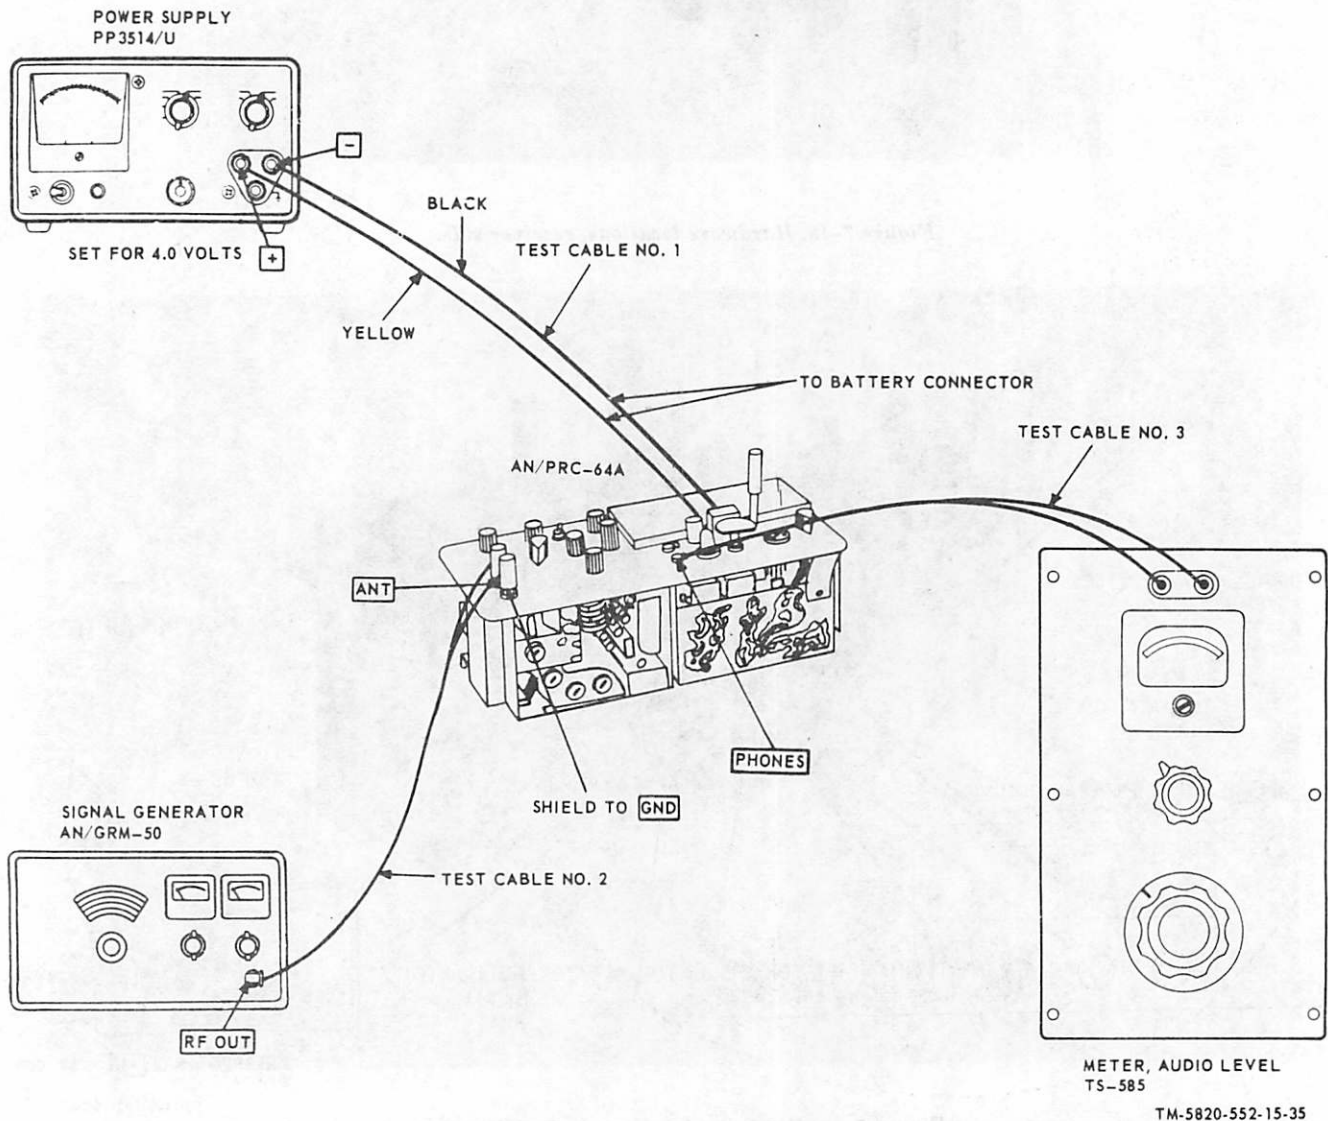

Figure 7-20. Receiver RF alignment, test setup.
b. Connect test equipment as shown in figure 7-20.